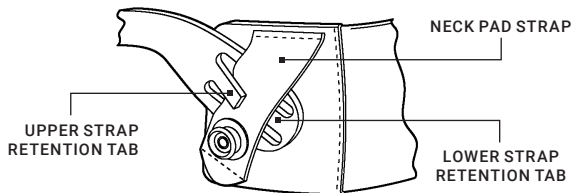

FIGURE 3-1. RE-INSTALLING THE NECK PAD
1. Lift the upper headband strap retention tab (Figure 3-1) to make space for the neck pad strap to be inserted underneath.